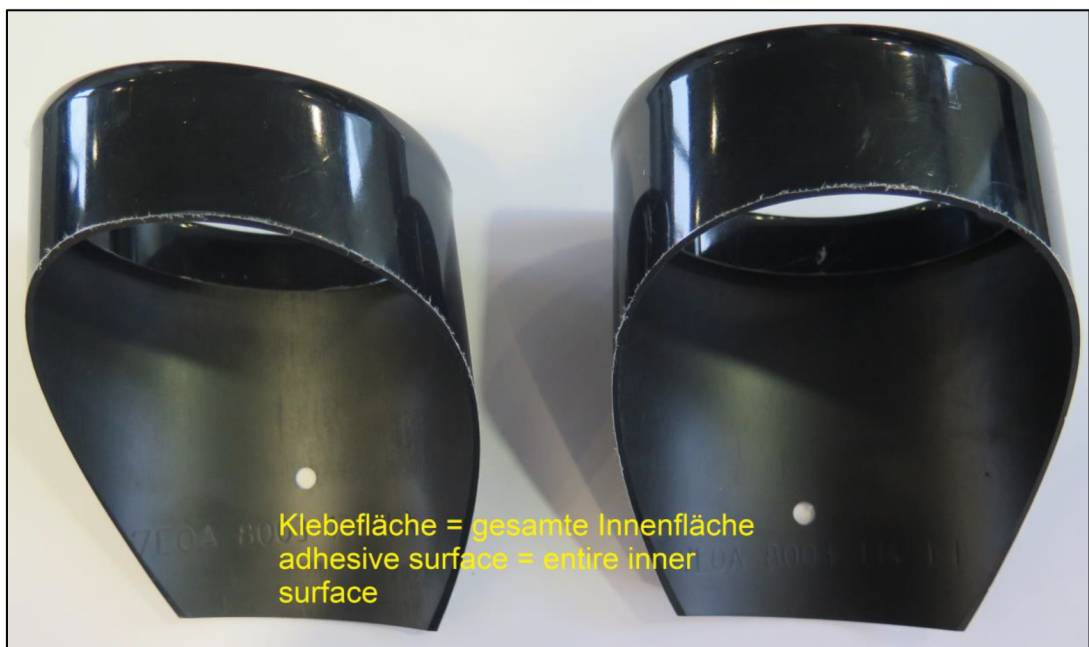

Fig 11: Bonding area ABT end pipes
26. Lightly roughen the bonding areas (Fig. 11) of the ABT end pipes (in the ABT end pipes and on the ABT rear skirt). Remove any grinding dust and clean the bonding areas thoroughly.